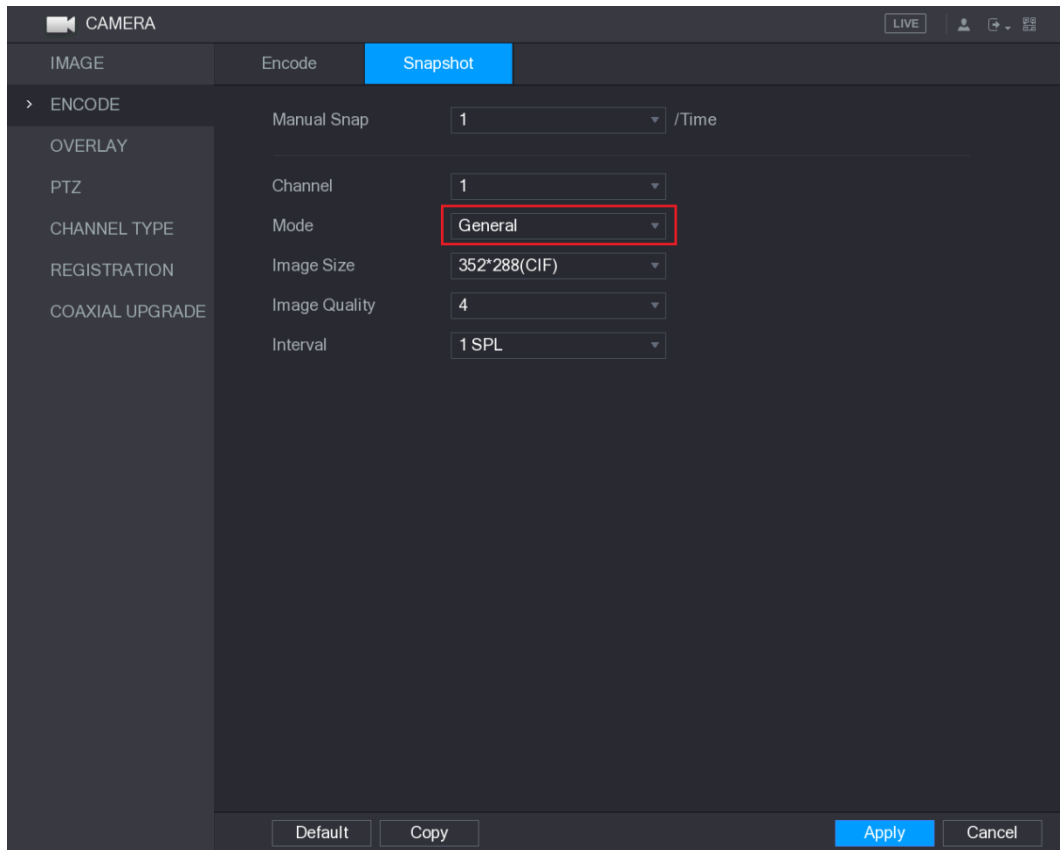

Figure 5-87
Step 5 In the **Mode** list, select **General**, and then configure other parameters. See Figure 5-87.